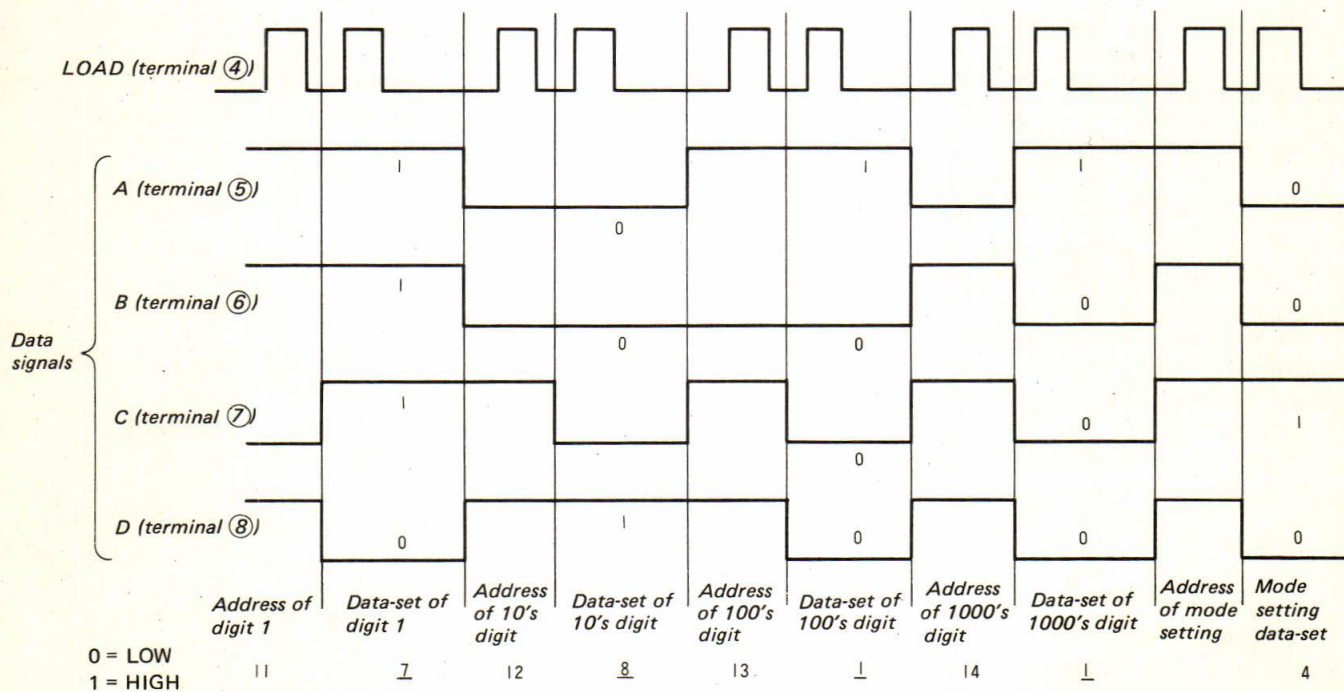

Fig. 1-3.
The data signals from the microcomputer at terminals ④ to ⑧ of IC502 are normally at the LOW level. When checking this, it is suggested that the set be tuned to a band edge and the measurement be made while keeping the tuning knob rotated in the direction in which the frequency no longer changes (that is, in the DOWN direction when the set is tuned to the lower band edge). The data output signals consist of LOAD signal and data signals. Further, the data signal is consisted of address signals and data set signals and they are sent alternately in turns. Fig. 1-3 shows the timing of these signals.
The waveforms as shown in Fig. 1-3 can be obtained on the oscilloscope (storage oscilloscope or a dual beam oscilloscope). As is clear from this figure, the signals consist of the address signals followed by the data set signals sent alternately. Since the data is read only when the LOAD signal is HIGH, the address signal for the first digit is read in first. This data is then supplied to the address decoder.
The following information is provided by the signals shown in Fig. 1-3 (the data signals indicate the factor of frequency division).